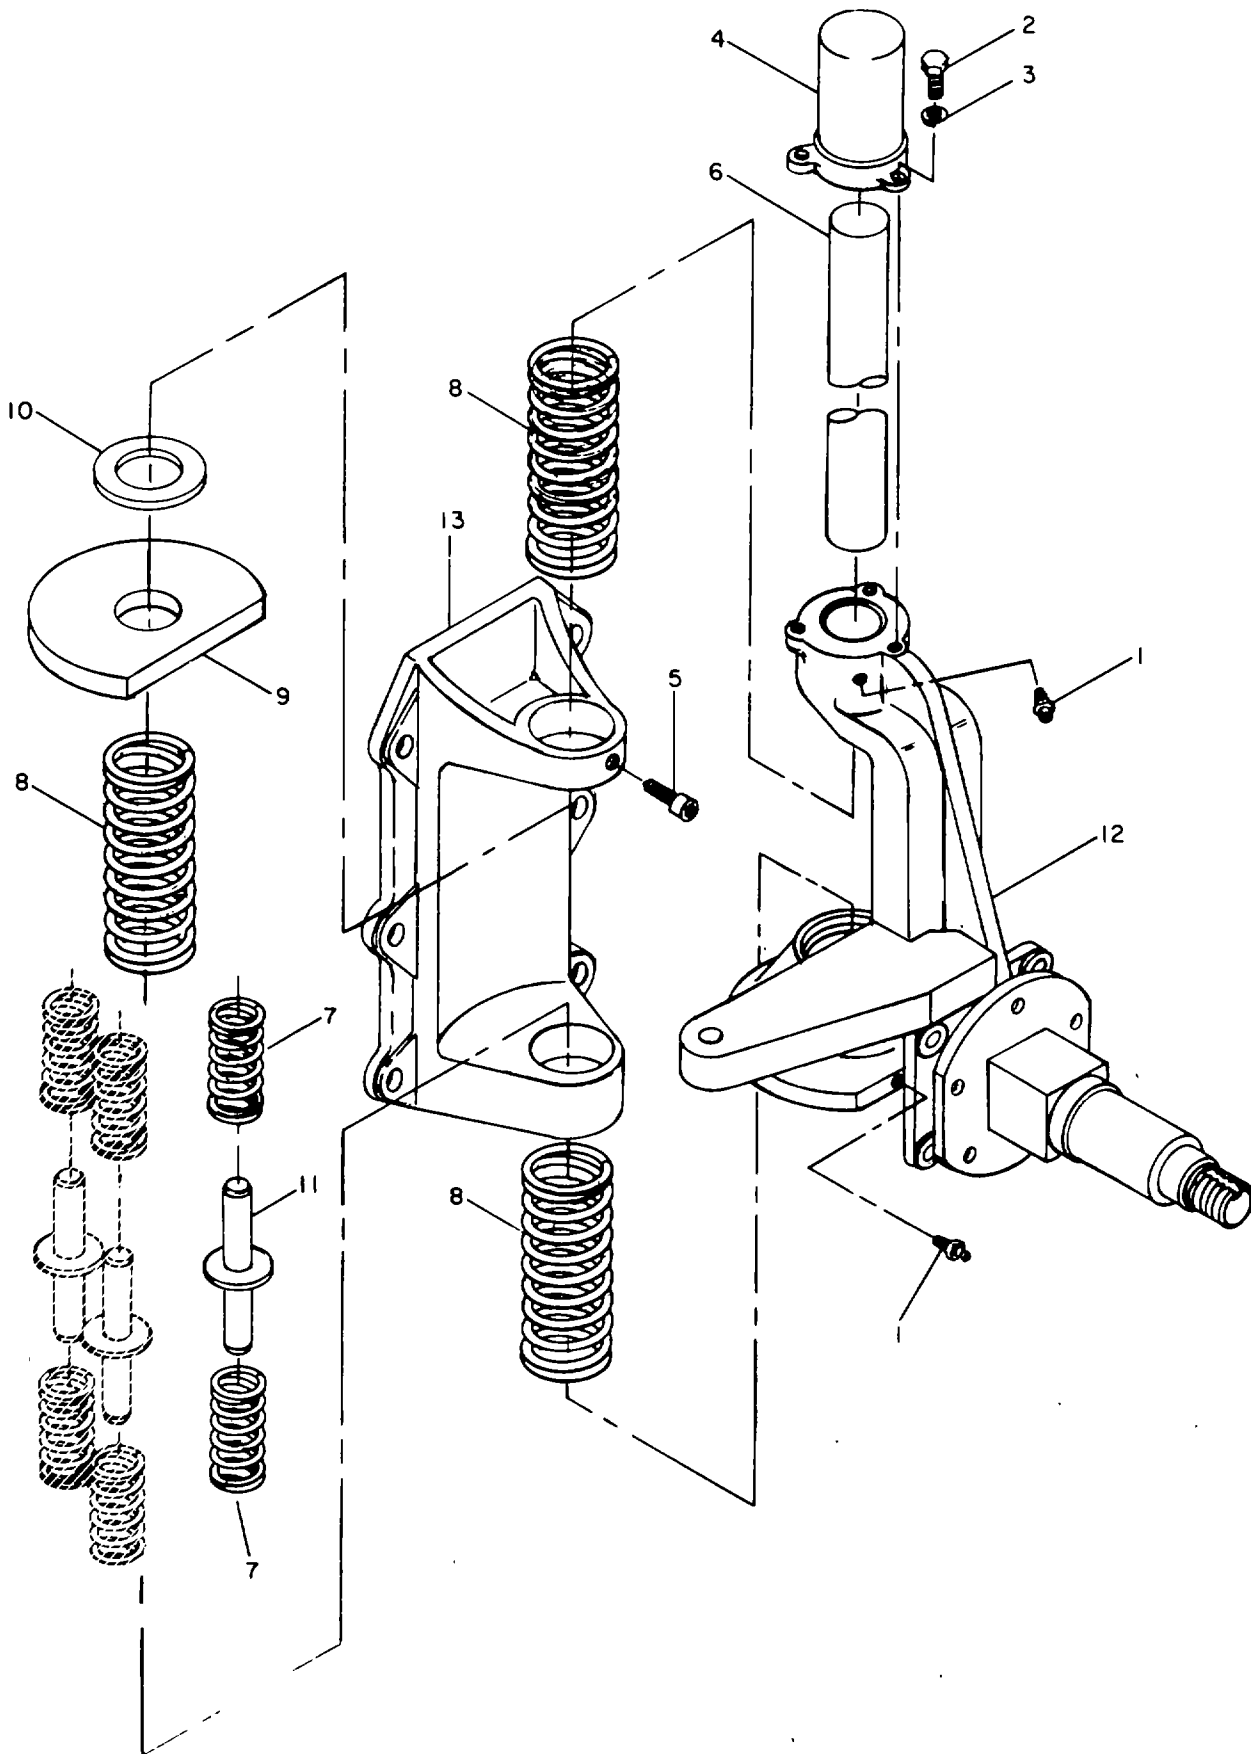

Figure 4-10. Wheel mount shock-absorbing spring assembly (used on front transporter assembly only)
Legend for fig. 4-10.:
- (1) Check inside bore of cap (4, fig. 4-10) for wear.
- (2) Check kingpin (6) for wear.
- (3) Check springs (7) for damage.
- (4) Check dust covers (8) for tears.
- (5) Check spindle on knuckle (12) for worn bearing surfaces and for damaged threads.